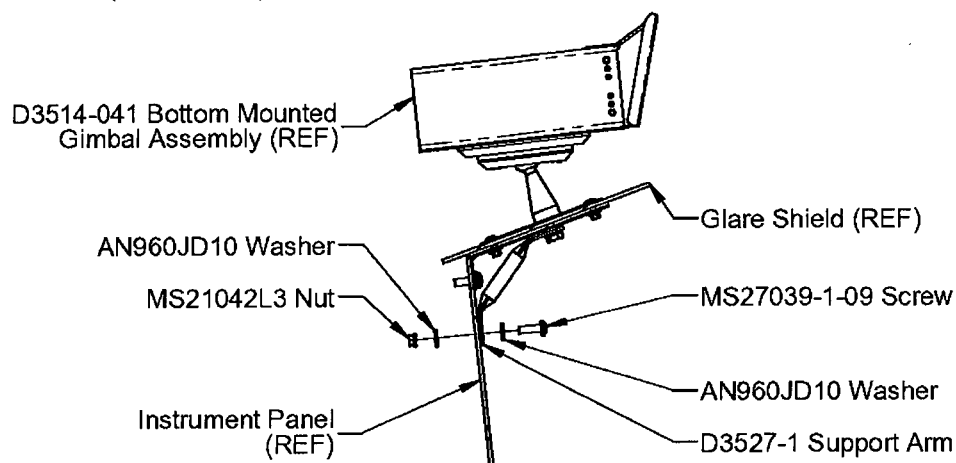

Figure 3.2.5 – Installation of the D3527-1 Support Arm
- 3.2.8 Transfer drill qty(1) #9 (\varnothing 0.196") hole from the D3527-1 Support Arm through the helicopter instrument panel. Deburr and touch up the hole per the Aircraft Maintenance Manual. Secure the D3527-1 Support Arm to the instrument panel using the MS27039-1-09 screw, qty(2) AN960JD10 washers and the MS21042L3 nut as shown in **Figure 3.2.5**. Torque the screw to 15-25 in-lbs (1.7-2.8 N-m).